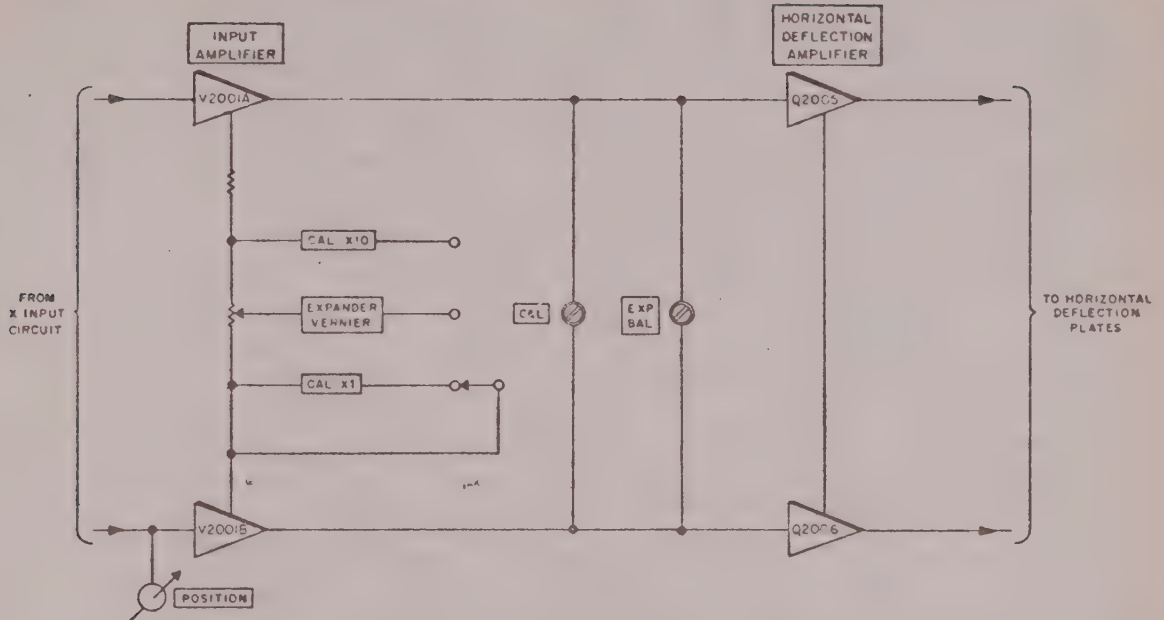

Figure 3-4. X Deflection Amplifier, Functional Block Diagram
- Figure 3-4. X Deflection Amplifier, Functional Block Diagram